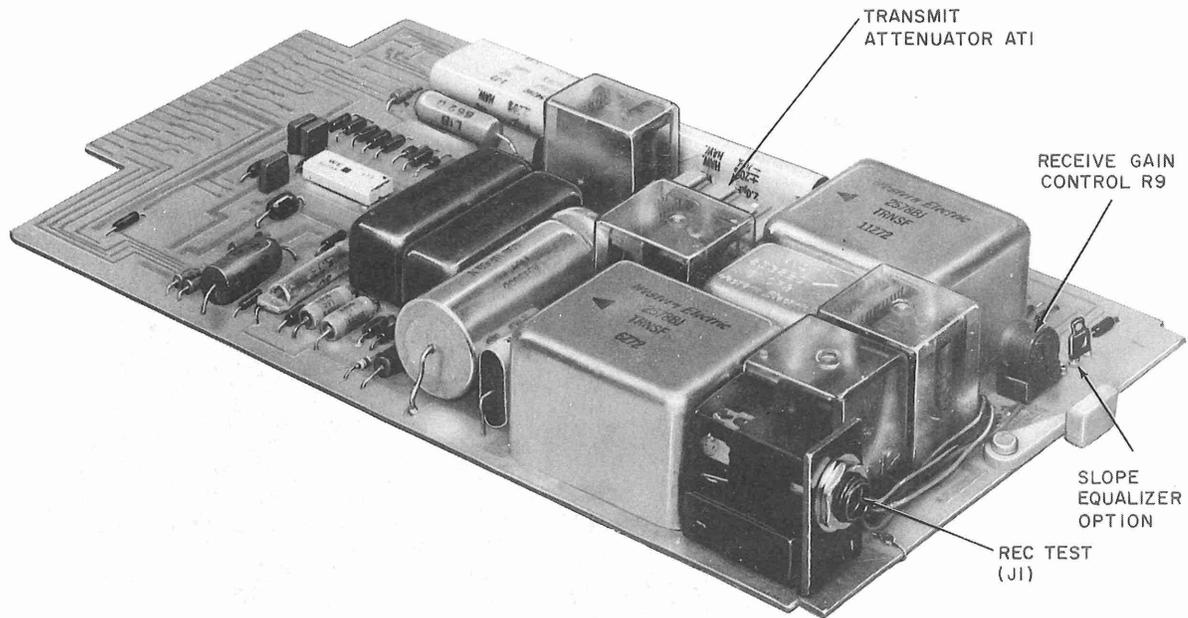

Fig. 2—48B1 Data Unit
2.04 The 48B1 data unit (Fig. 2) contains the circuitry required to provide 4-wire dial